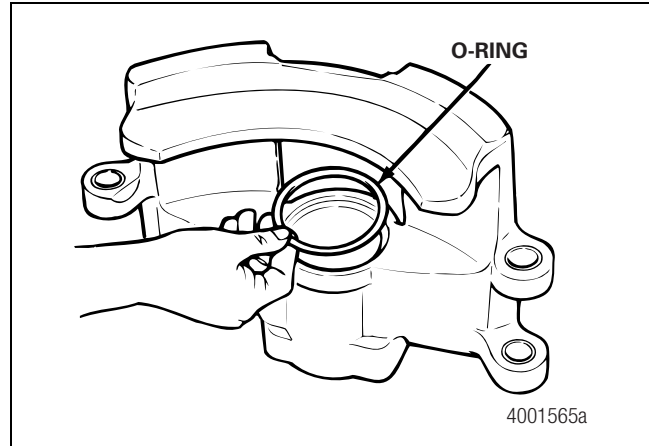

Figure 5.11
12. Use a tool with a thin blade to remove the O-ring from the bore of the caliper. Ensure you do not damage the bore. Discard the old O-ring and use a new O-ring when you assemble the caliper. Figure 5.11.